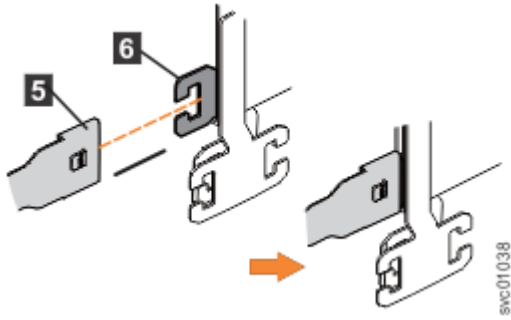

Figure 53. Attach the support rail connector of the upper CMA to the right support rail
- Attach the support rail connector on the upper CMA assembly (5) to the connector base on the right support rail (6), as shown in Figure 53 on page 54.